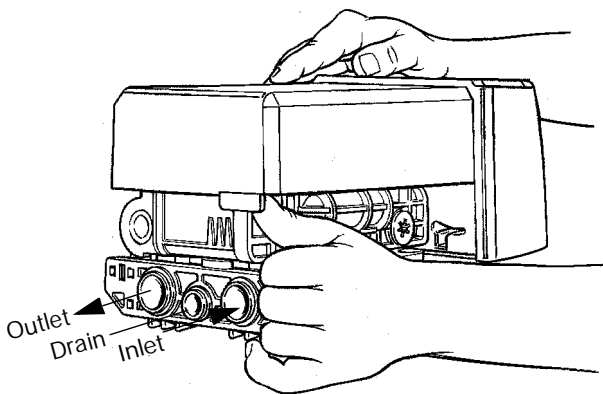

Figure 14
- Remove the rear cover by pushing back on the tab provided on the cover, Figure 14, and lift the rear cover off the valve.
3. Relieve system pressure by opening the drain flapper (the fifth flapper back from the control), Figure 14.